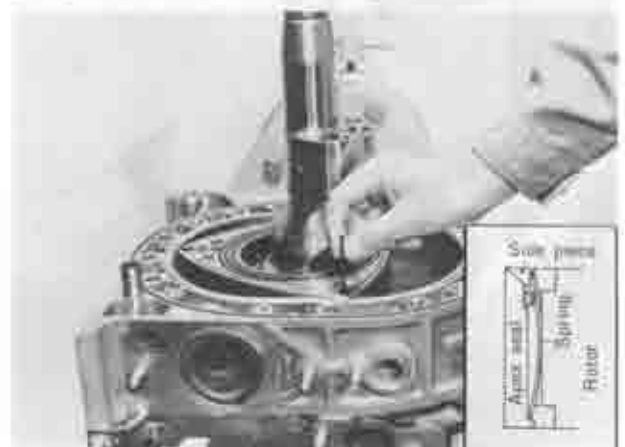

Fig. 1-66 Installing apex seal spring
1. Insert the each apex seal spring confirming the spring direction as shown in Fig. 1-66.